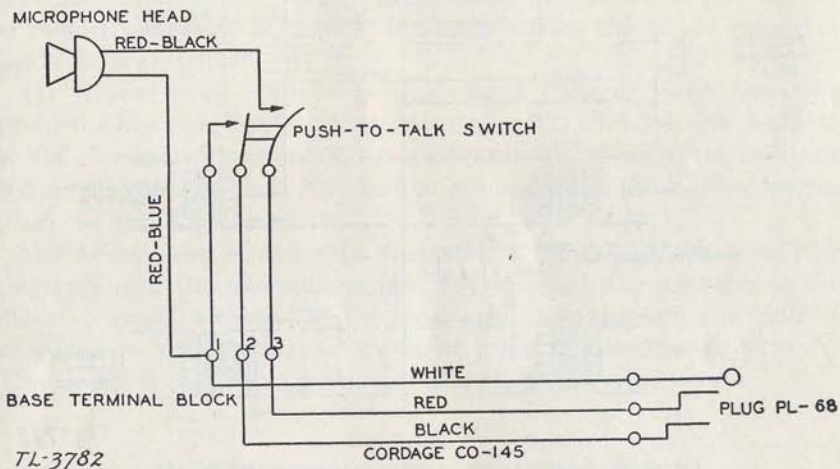

FIGURE 23.—Simplified schematic diagram of microphone T-32.
**40. Microphone T-32.**—This unit comprises a single button carbon granule type transmitter head, mounted on a desk stand, equipped with a "push-to-talk" switch (fig. 23). The d-c resistance of this microphone varies between 30 and 70 ohms, depending upon